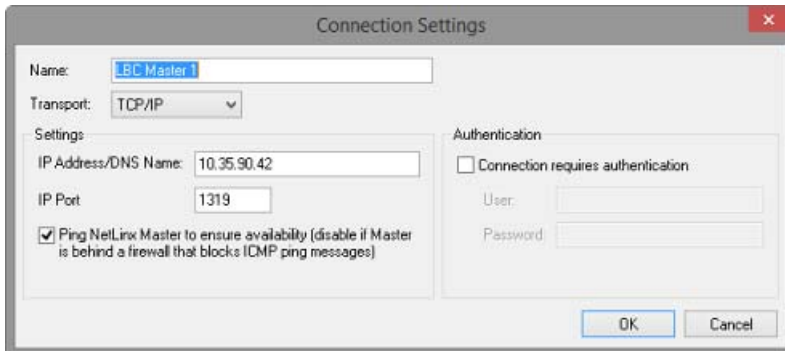

FIG. 416 Connect Settings dialog (editing an existing setting)
3. Click the **Properties** button to invoke the *Connection Settings* dialog (FIG. 416):